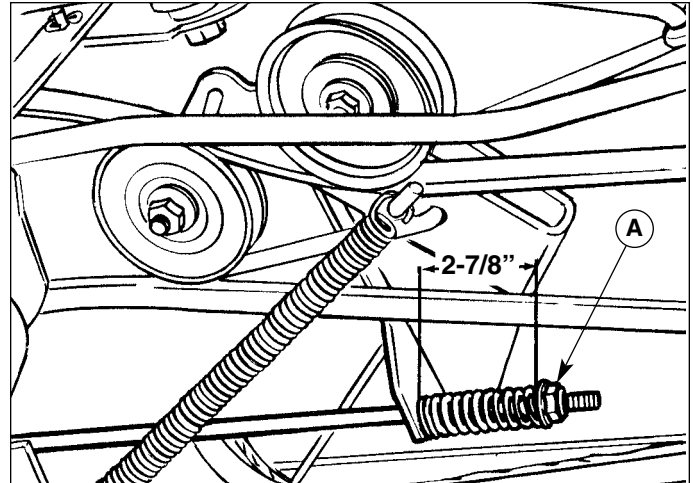

**Figure 12. Eaton 750/751 Clutch/Brake Rod Adjust nut (A) to provide correct spring length.**
2. The brake spring should be compressed to a length of 1-3/4". Turn the adjustment nut (A, figure 12) to increase or reduce spring tension until the correct spring length is reached.